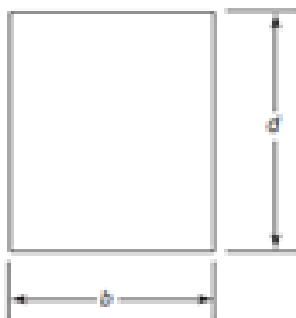

FIGURE E2-17 Cross section of a rectangular beam.
2.17 A beam of rectangular cross section (Fig. E2-17) is subjected to a maximum bending moment of  $M$  and a maximum shear of  $V$ . The allowable bending and shearing stresses are  $\sigma_a$  and  $\tau_a$ , respectively. The bending stress in the beam is calculated as